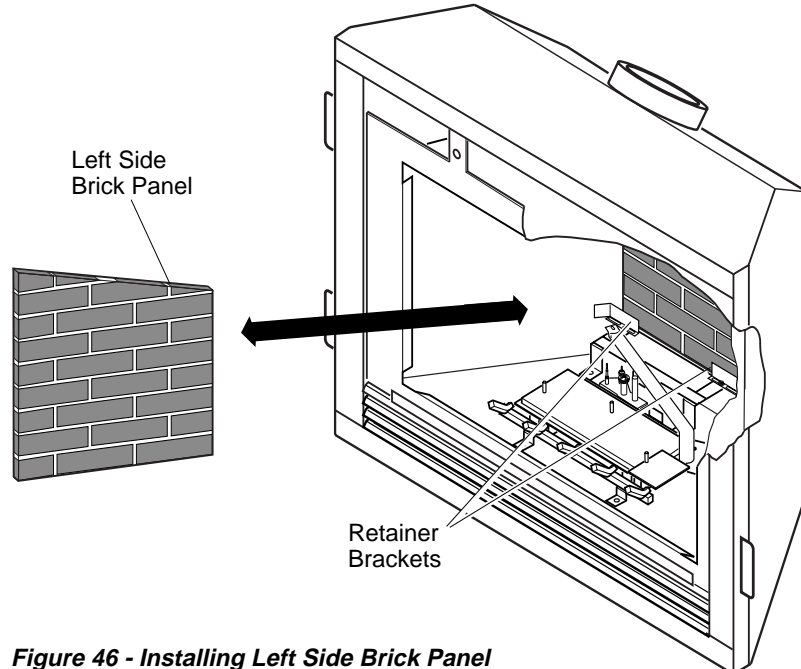

Figure 46 - Installing Left Side Brick Panel
5. Install left side brick panel by sliding it between the grate and the side of the firebox (see Figure 46).